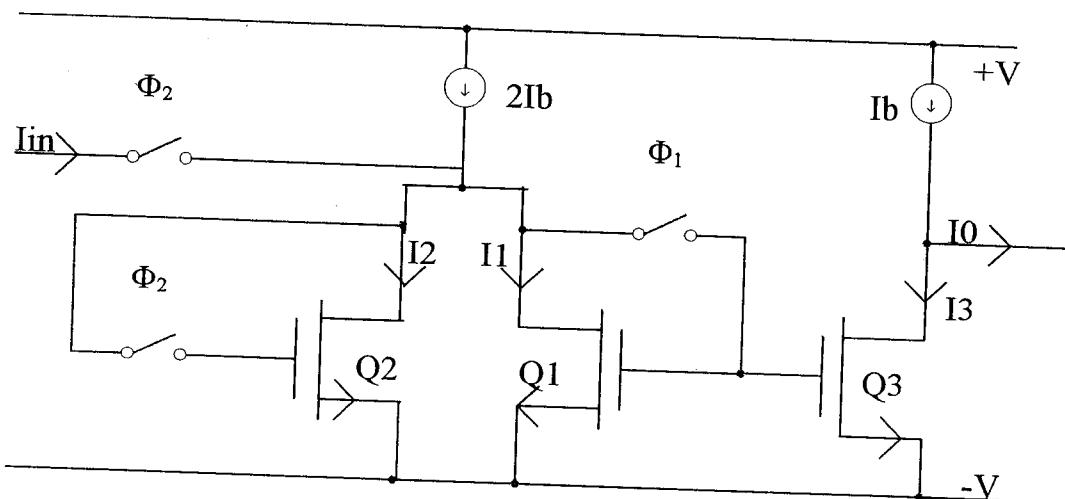

Figure 2
2. The circuit of *Figure 2* is a precision switched-current integrator.